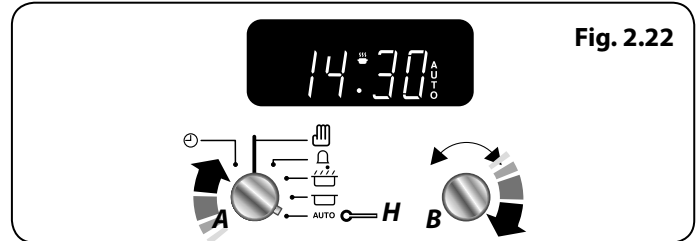

Fig. 2.22
3. Continue to turn the **Adjusting (B)** knob to the amount of time required e.g. 1 minute. The display will show the current time plus the required length of time you have set (**Fig. 2.22**).
4. Turn the **Timer (A)** knob to the **Auto (H)** setting (**Fig. 2.22**). The display will show the current time, the Cooking symbol and the word **'AUTO'** (**Fig. 2.22**).